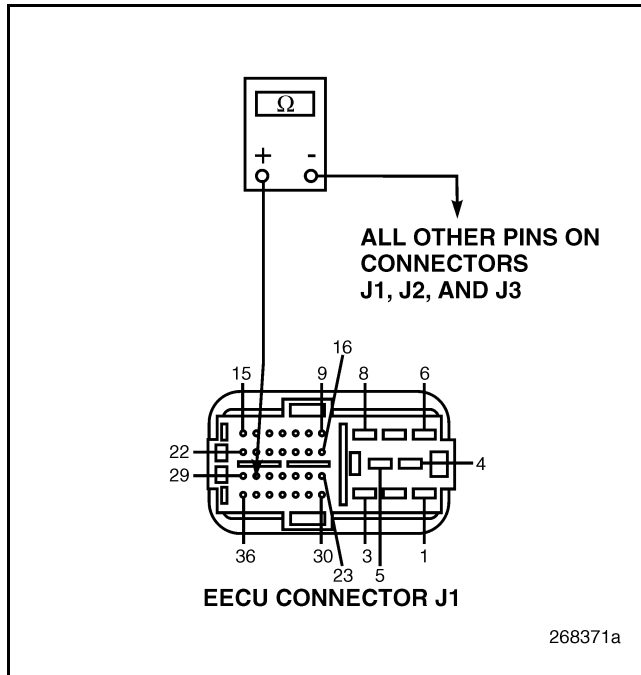

Figure 468
4. Check for continuity between EECU connector J1 pin 28 and all other pins on connectors J1, J2, and J3 (see Figure 468).